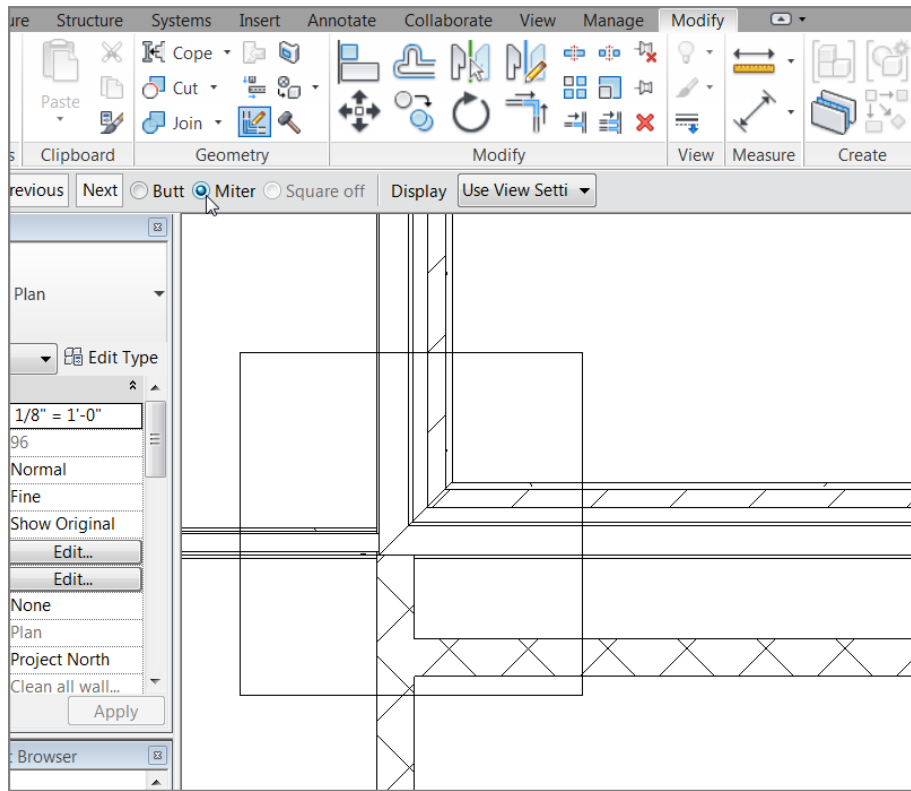

FIGURE 2.54: Adding a mitered join
10. On the Options bar, you now see some choices for configuring this intersection. Select the Miter option, as shown in Figure 2.54. This option is the most popular. Click Modify.